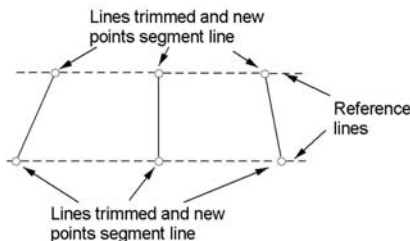

Figure 10-13. Trimmed Lines with New Points Segmenting Reference Lines
8. Click **No** to complete the procedure without segmenting the reference line or arc (Figure 10-13).